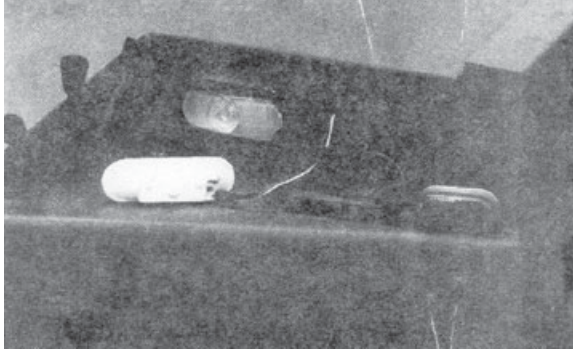

Figure 7-11.
19. Install all body lights, the magnetic light socket, and connect the chassis wiring to the wiring junction box on the wrecker body. (See Figure 7-11.)